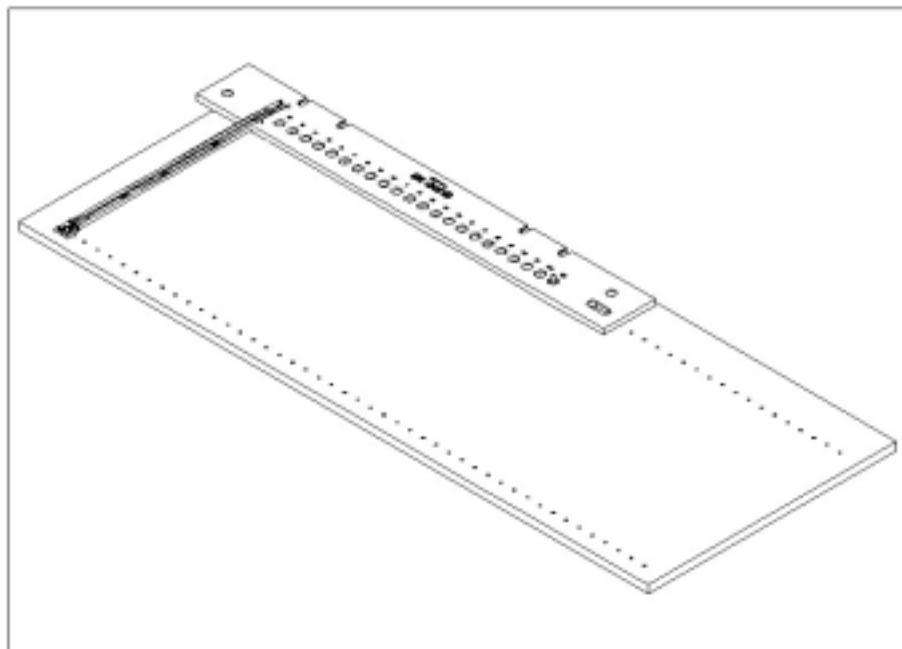

Figure 22
10. Place the hole-boring template over the rear stop-pin and place a parallel-pin in the last hole of the template; then place the spacer strip, or drawer guide over the stop-pin and parallel-pin as shown in Figure 22.